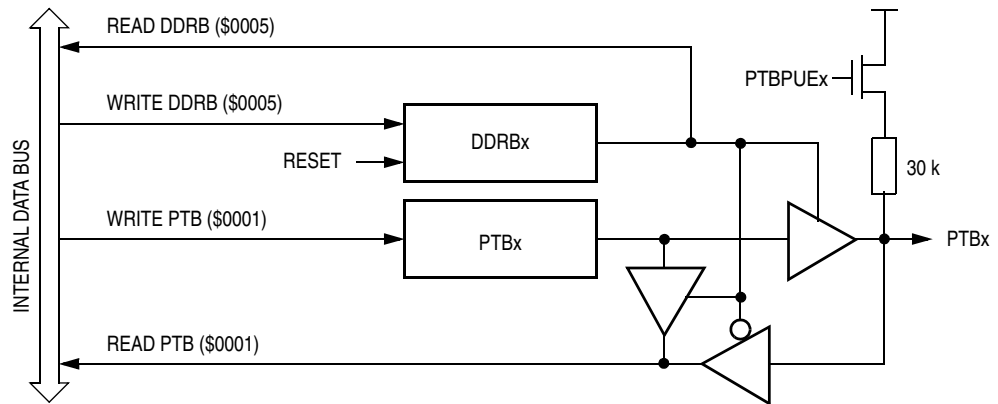

Figure 13-8. Port B I/O Circuit
**NOTE:** Avoid glitches on port B pins by writing to the port B data register before changing data direction register B bits from 0 to 1. Figure 13-8 shows the port B I/O logic.